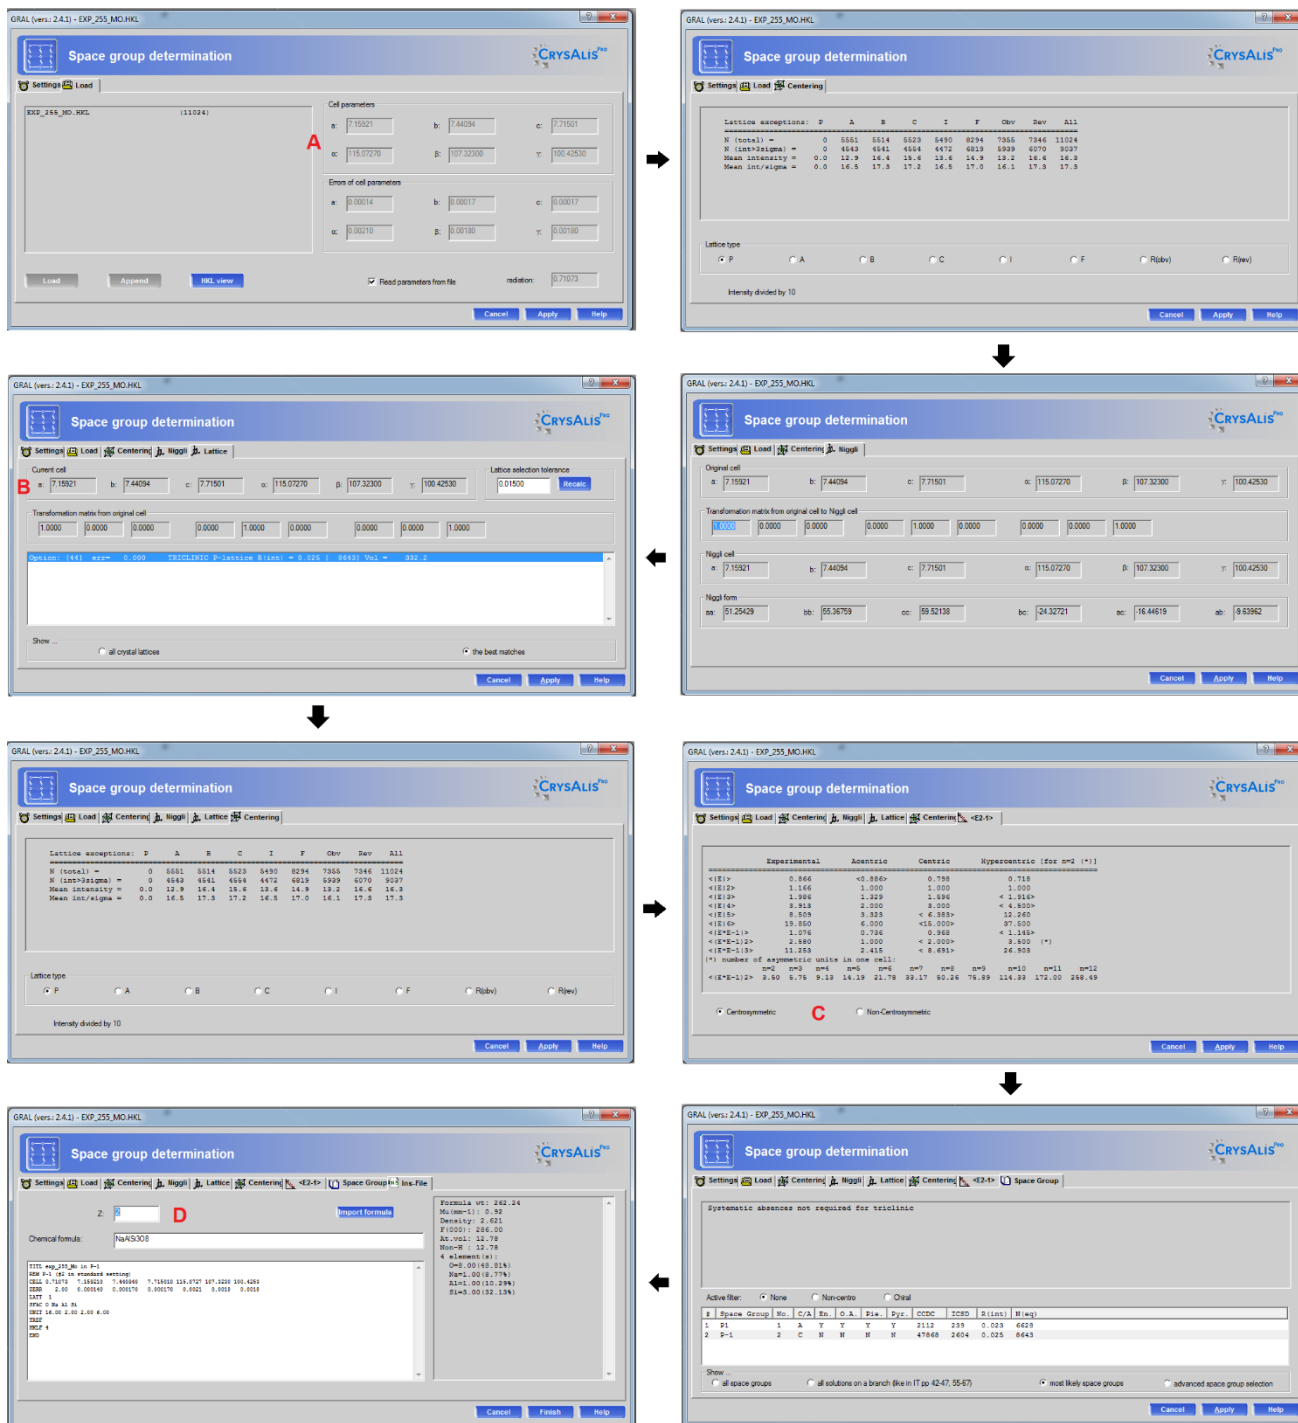

Fig. 18. Space group determination assistant.
8) Once the reprocessing completed, a new window for the space group determination will appear. The space group determination is divided into eight steps (Fig. 18) (NOTE: during these steps the software will always propose the most likely solution, but not necessary the correct one). Press *Next* to access to the following steps. The important parameters to check are the following:
11) If you have chosen *Interactive*, the same window as the one on the Fig. 18 will be displayed. Follow the same steps than those explained in *point 8*).